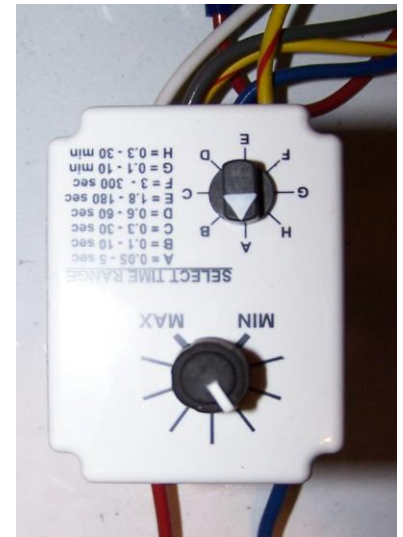

Figure 6
STEP 7 - Install the new time delay relay. Set the first dial to the "A" position. Adjust the second dial to the desire delay. As shown in Figure 6, this setting should provide approximately 3 seconds.